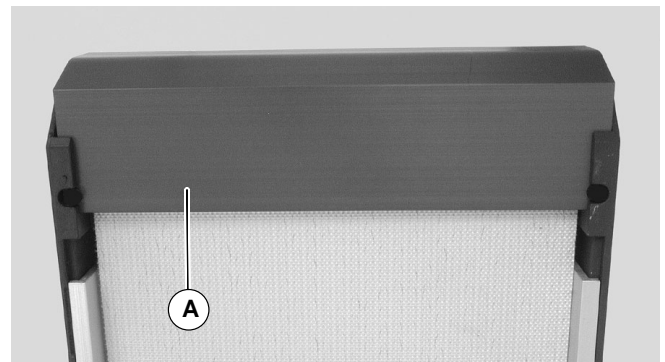

Figure 3
3. Install transfer plate (A of Figure 3) into assembly slot as shown in figure 3.